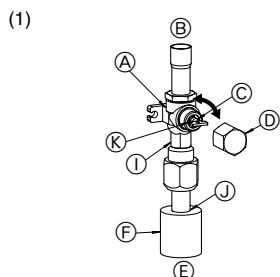

Fig. 4-5
- (1) Gas side (Fig. 4-5)
- ① Remove the cap, pull the handle toward you and rotate 1/4 turn in a counterclockwise direction to open.
- ② Make sure that the stop valve is open completely, push in the handle and rotate the cap back to its original position.